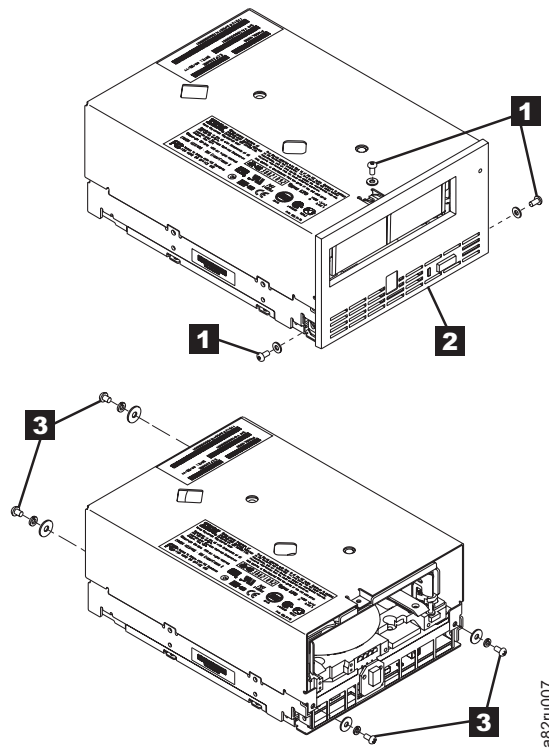

Figure 8-72. Removing the cover from the internal drive
- a. Using a Phillips screwdriver, remove the three screws and washers (see **1** in Figure 8-72 on page 8-76) that secure the bezel (see **2**) to the internal drive, then remove the bezel.